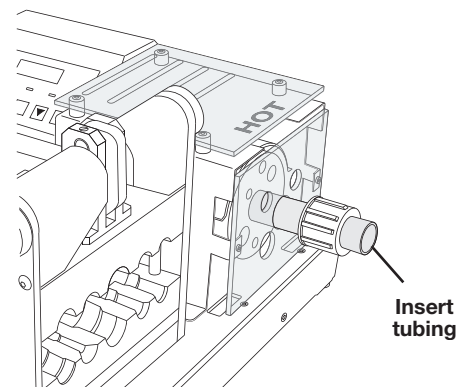

Fig. 6
3. Insert prepared tubing into the appropriate size hole of the **heater block** until the tubing reaches the positive stop. See Fig. 6.